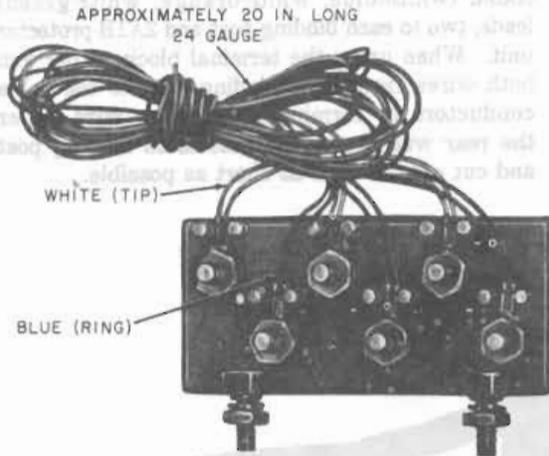

Fig. 8—6A2-3 Terminal Block
(c) **6A2-3 Terminal Block (Fig. 8):** Used at the junction of distribution cable and service wire where only fusing is required. The terminal block is 3-pair nonprotected, equipped with twelve 24-gauge (blue, ring and white, tip) leads, two to each binding post.
**7.08** Fuse wiring is required when buried cables containing 19- or 22-gauge conductors are exposed to power of over 300 volts to ground. To provide fuse wire protection, nonprotected terminal blocks, such as the 6A2-3 terminal block (Fig. 8), should be used at the cable, service wire junction.